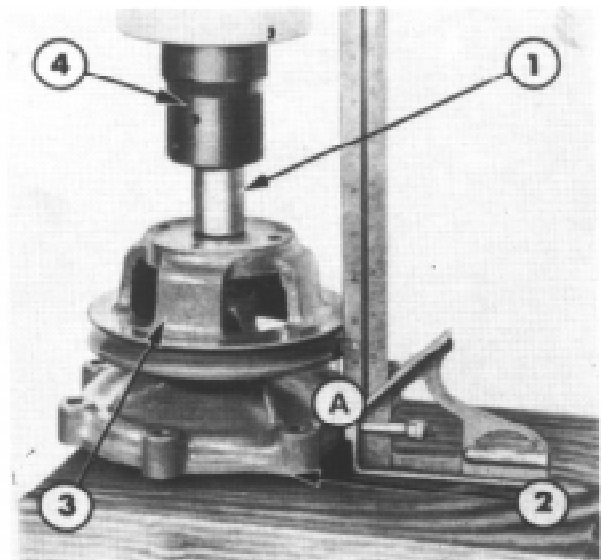

Figure 7
5. Support the shaft on a block of wood and press the pulley onto the shaft, to the dimension shown in Figure 7 is from the rear face of the front cover to the centre of the Pulley V-groove. After installation, be sure the pulley runs true on the shaft.